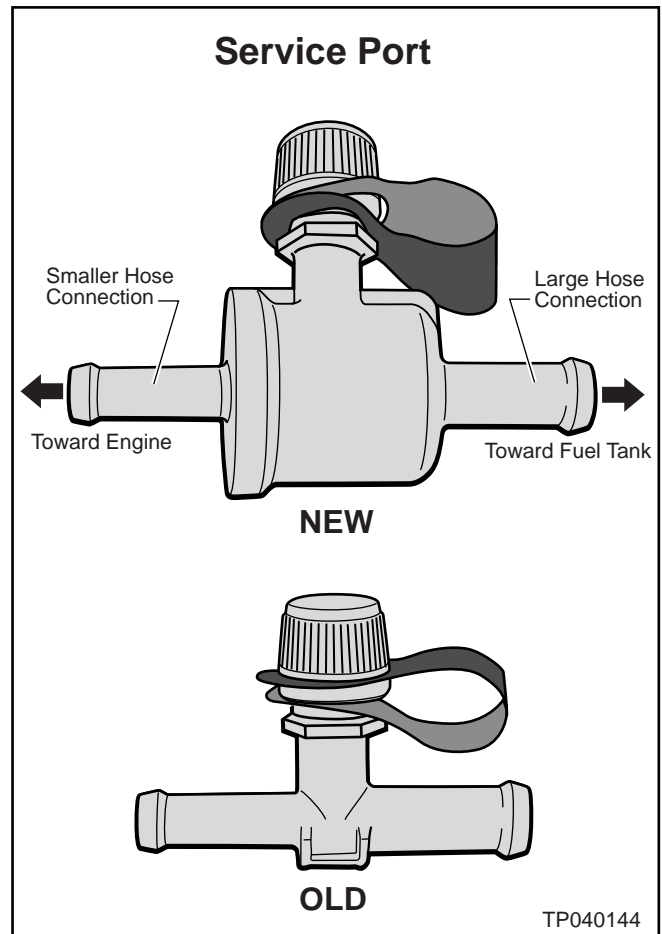

Figure 2
**NOTE:** If your vehicle already has the “new” style service port, this bulletin does not apply (see Figure 2).
- Make sure you install the Service Port in the correct direction (see Figure 2).